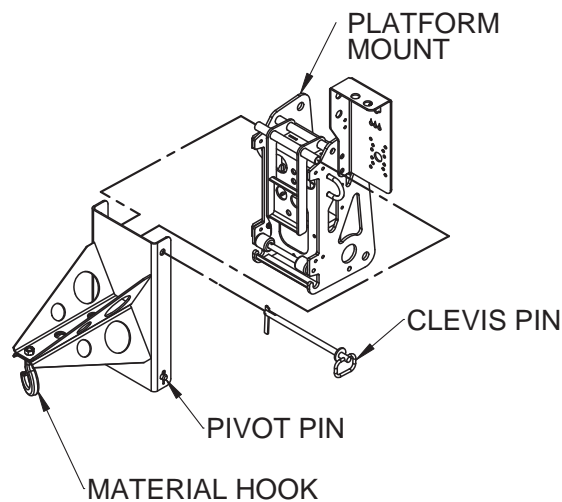

Figure 7-5. Material Lifting Hook Installation
- Attach the material lifting hook to the mounting bracket on the **PLATFORM MOUNT** and re-insert the **CLEVIS PIN**. Refer to Figure 7-5.